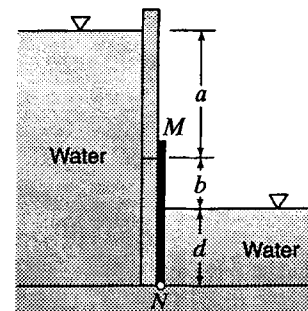

Figure X3.7.10
3.7.10 The gate MN in Fig. X3.7.10 rotates about an axis through N. If  $a = 3.3$  ft,  $b = 1.3$  ft,  $d = 2$  ft, and the width perpendicular to the plane of the figure is 3 ft, what torque applied to the shaft through N is required to hold the gate closed?